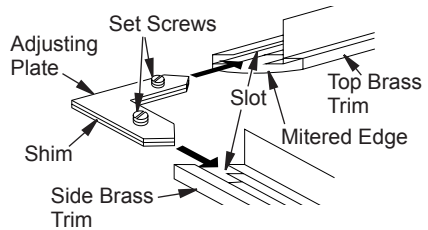

Figure 15 - Assembling Brass Trim
- Align shim under adjusting plate as shown in Figure 15.
- Slide one end of adjusting plate/shim in slot on mitered edge of top brass trim (see Figure 15).
- Slide other end of adjusting plate/shim in slot on mitered edge of side perimeter trim (see Figure 15).